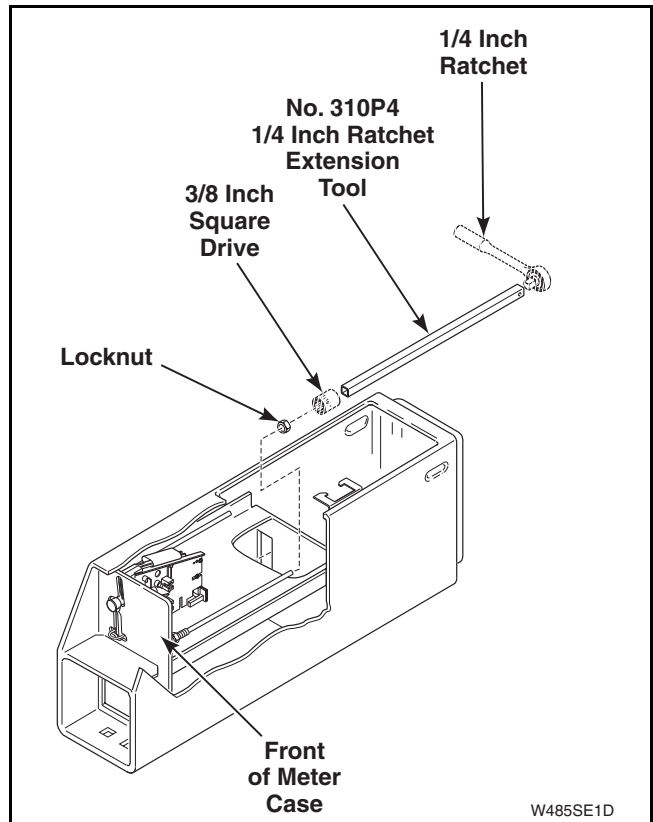

Figure 26
- (4) Use a 7/16 inch socket with No. 310P4 1/4 inch Ratchet Extension Tool and remove two locknuts holding coin drop to front of meter case. Refer to *Figure 26*.
- (5) Lift back end of coin drop and pull straight back until bottom edge of drop's front face plate falls behind the coin drawer housing.
- (6) Carefully lift complete coin drop straight up and out of meter case.